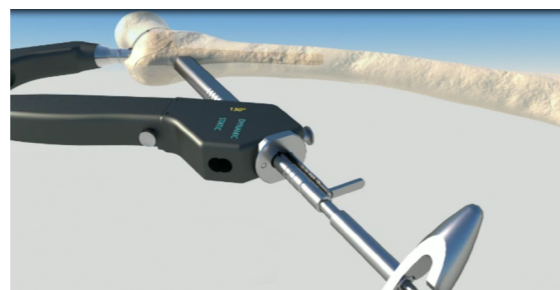

Figure 14c
- If the position is not ideal and you still want to move forward, you need to confirm whether the screw can move forward by another 3.1mm, because the screwdriver must rotate one circle, and the notch will punch towards the pressure screw (Figure 14c).